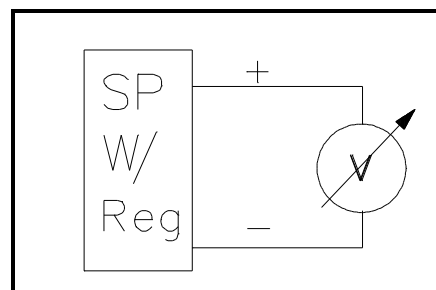

Figure 1 Without Load Test
- Volt meter is connected as shown in Figure 1.